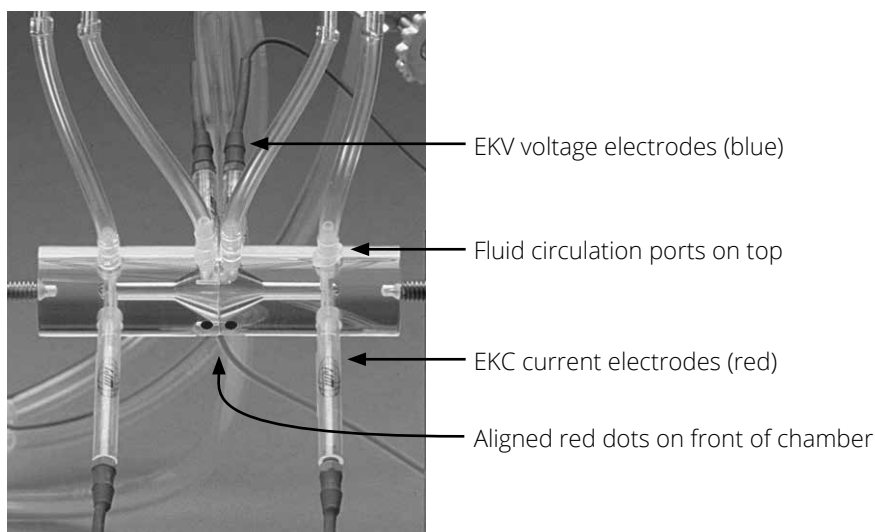

Fig. 2—Port configuration of all chambers.
4. The Ussing chamber has eight luer ports. The four ports on top of the chamber are connected to the solution reservoir, as shown in Fig. 2, using the 9/32-inch OD Tygon tubing supplied. Use as short a piece of tubing as possible to avoid problems with air bubbles.